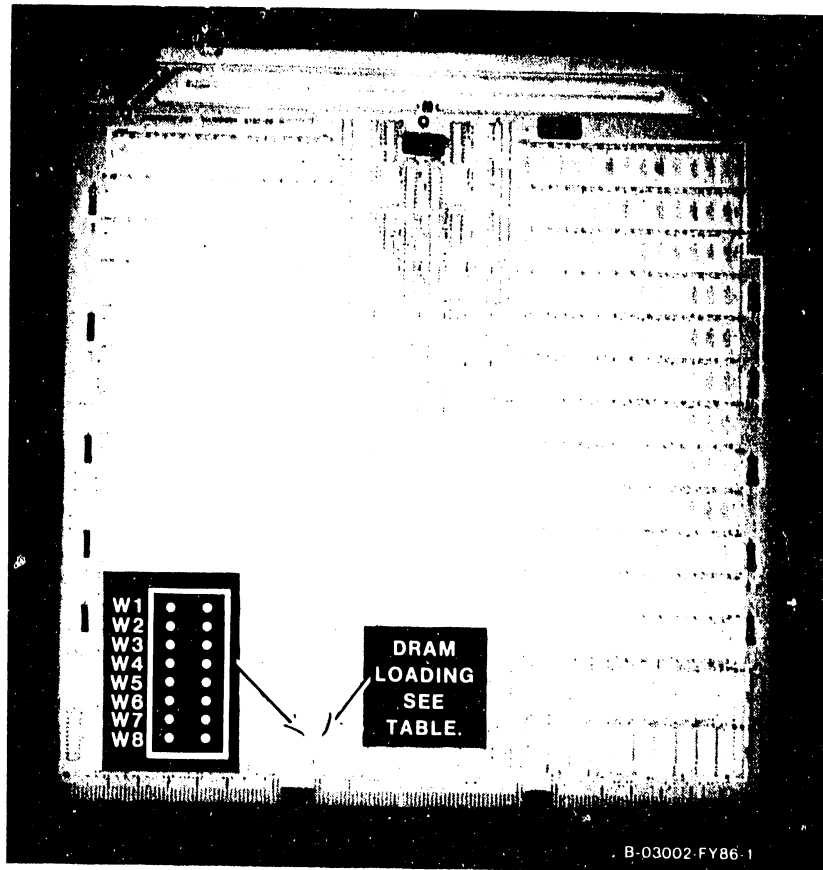

Figure 5-20. 210-8703 Main Memory
1. Remove the Main Memory board(s) (figure 5-20) from backplane slot(s) #7 through 14 in the manner described in 5.3.2.4.1.